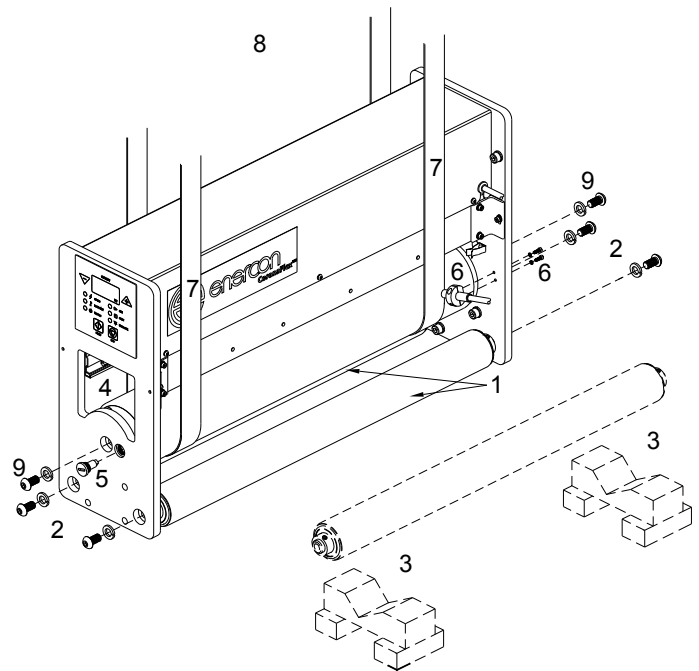

Figure 47
they can typically be supported by hand. Remove the 2 mounting bolts (2) that support each idler roll in the station frame (**Figure 47**).